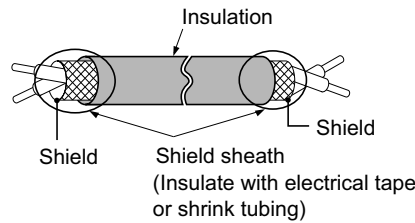
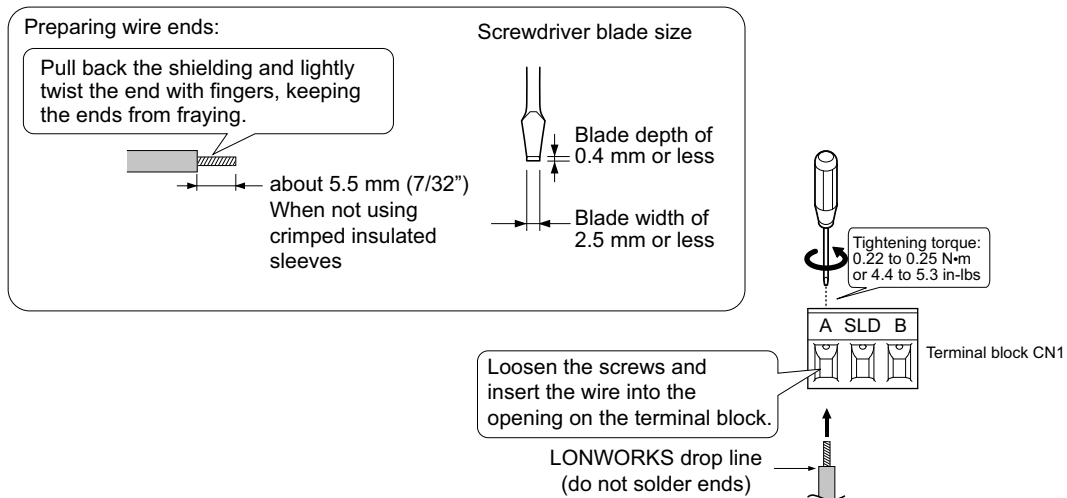

Figure 7 Preparing Ends of Shielded Cable
Figure 8 Preparing and Connecting Communication Cable Wiring
6. Prepare and connect the communication cables to the terminal block as shown in **Figure 7** and **Figure 8**. Take particular precaution to ensure that each wire is properly connected and wire insulation is not accidentally pinched into electrical terminals.